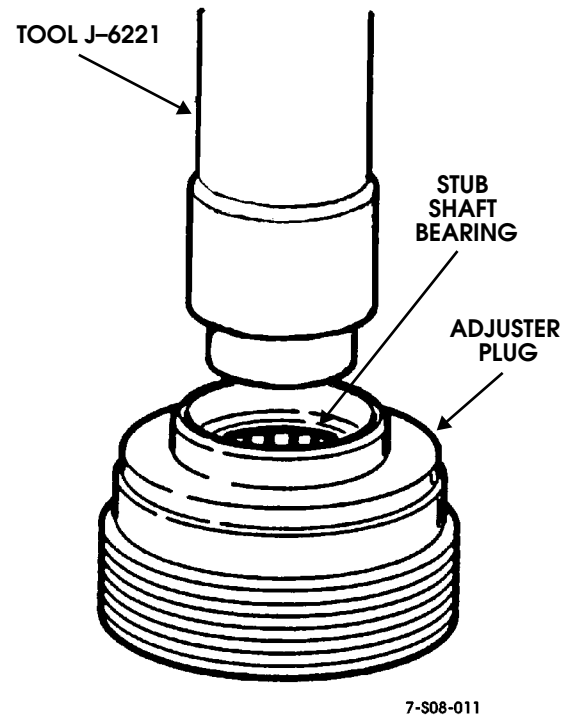

Figure 8-37: Stub Shaft Bearing Removal
6. Remove dust seal and oil seal (Figure 8-37). Use tool J-6221 to remove seals.
7. Remove stub shaft bearing with tool J-6221 (Figure 8-37).